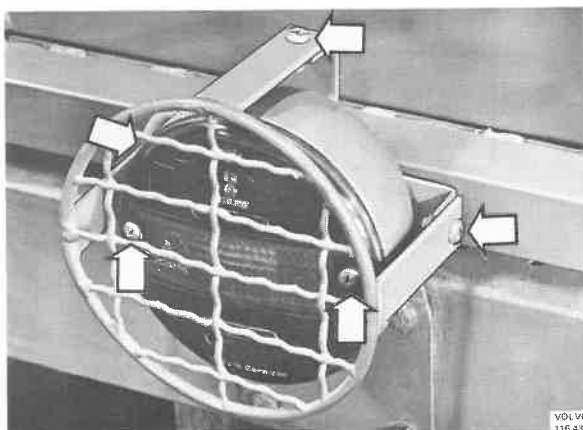

Fig. 35-6. Tail light with grille
1. Remove the grille and the screws retaining the glass, see Figs. 35-6 and 35-7.